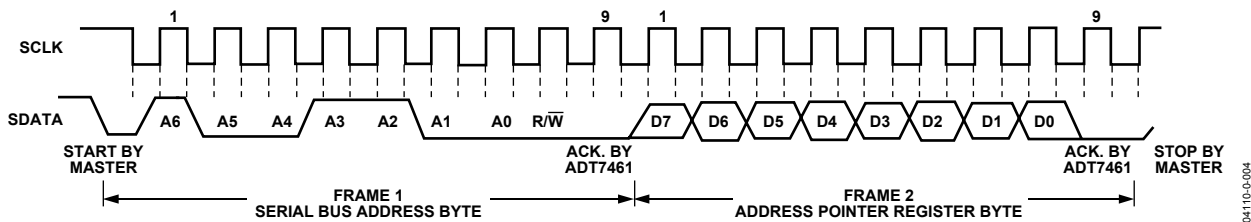

Figure 16. Writing to the Address Pointer Register Only
- If the ADT7461's address pointer register value is unknown or not the desired value, it is first necessary to set it to the correct value before data can be read from the desired data register. This is done by performing a write to the ADT7461 as before, but only the data byte containing the register read address is sent, as data is not to be written to the register. This is shown in Figure 16.
- If the address pointer register is known to be already at the desired address, data can be read from the corresponding data register without first writing to the address pointer register and the bus transaction shown in Figure 16 can be omitted.